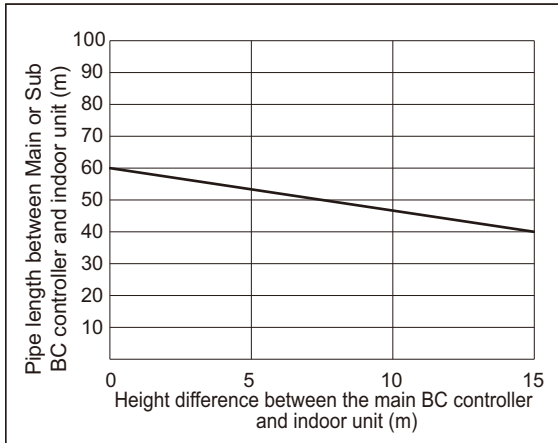

Fig. 2
*9. When the piping length or the vertical separation exceeds the limit specified in Fig. 2, connect a sub BC to the system.
When using indoor models P/M140 or larger, the restrictions shown in Fig. 2 cannot be exceeded.